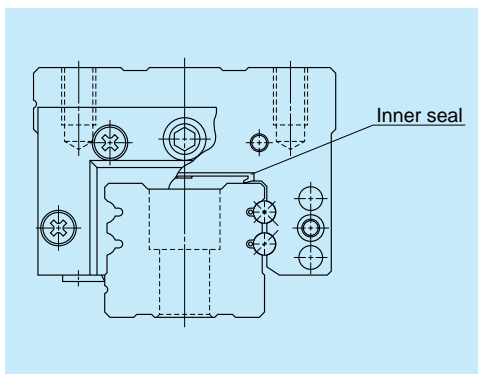

Fig. II-5-9 Inner seal when installed
(4) Inner seal
- The end seal installed on both ends of the ball slide cannot arrest entire foreign matters, though the missed amount is negligible. An inner seal protects the ball contact surface from such foreign matters which entered inside the ball slide (Fig. II-5.9).